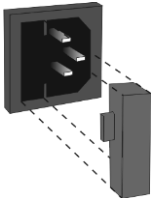

Figure 3. Fuse holder
8.4 **Fuse replacement.** Disconnect the power cable from the mains. Disconnect the power cable from the socket on the rear of the unit. Open the fuse holder, located near the socket (fig. 3). Check and replace with a correct fuse if necessary, see table below: